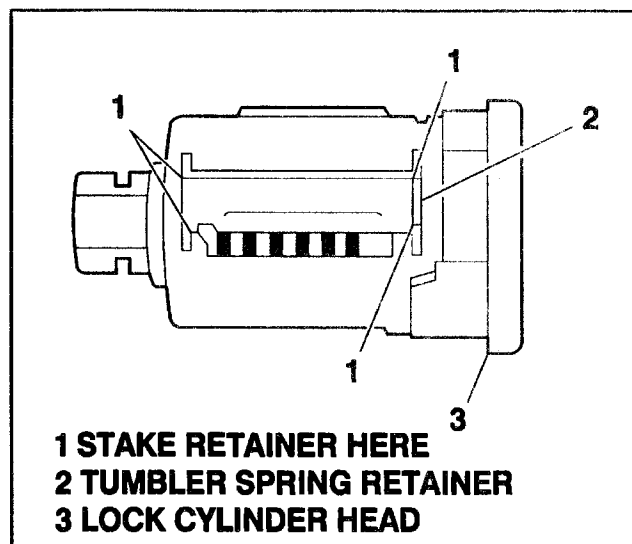

Figure 23—Locking Tumblers in Place
8. Stake the spring retainer securely in place at each end, using a suitable staking tool. Stake the cylinder metal over the retainer (Figure 23).